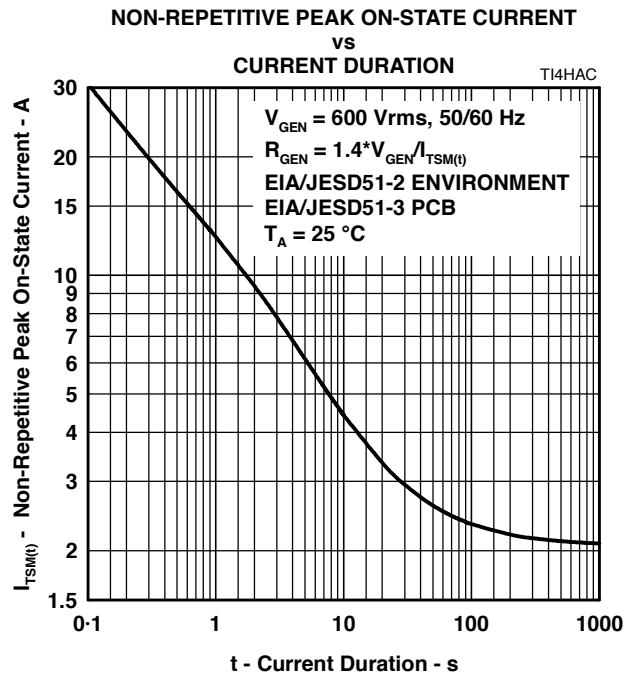

Figure 8.
5. EIA/JESD51-2 environment and EIA/JESD51-3 PCB with standard footprint dimensions connected with 5 A rated printed wiring track widths. See Figure 8 for the current ratings at other durations. Derate current values at  $-0.61\text{ }^\circ\text{C}$  for ambient temperatures above  $25\text{ }^\circ\text{C}$ .
The protector can withstand currents applied for times not exceeding those shown in Figure 8. Currents that exceed these times must be terminated or reduced to avoid protector failure. Fuses, PTC (Positive Temperature Coefficient) resistors and fusible resistors are overcurrent protection devices which can be used to reduce the current flow. Protective fuses may range from a few hundred milliamperes to one ampere. In some cases, it may be necessary to add some extra series resistance to prevent the fuse opening during impulse testing. The current versus time characteristic of the overcurrent protector must be below the line shown in Figure 8. In some cases, there may be a further time limit imposed by the test standard (e.g. UL 1459 wiring simulator failure).